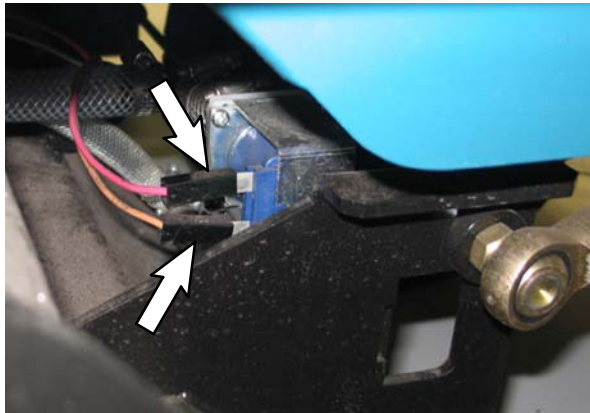

FIG. 8
10. Disconnect the main wire harness from the water valve attached to the scrub head. Refer to Fig. 8.
11. Connect the two wires previously attached to the water valve to the *ec-H2O* harness. Refer to Fig. 8 and Fig. 12.